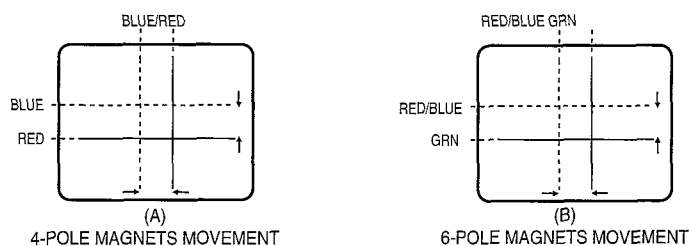

FIG. 1 CENTRE CONVERGENCE BY CONVERGENCE MAGNETS
Rotate the pair of rings (maintaing spacing between tabs) to converge the horizontal red and blue lines. (Refer to fig. 1 (A))
- b. After completing red and blue centre convergence, locate the pair of 6 pole magnet rings. Rotate individual rings (change spacing between tabs) to converge the vertical red and blue (Magenta) and green lines. Rotate the pair of rings (maintaining spacing between tabs) to converge the horizontal red and blue (Magenta) and green lines. (Refer to Fig. 1(B))